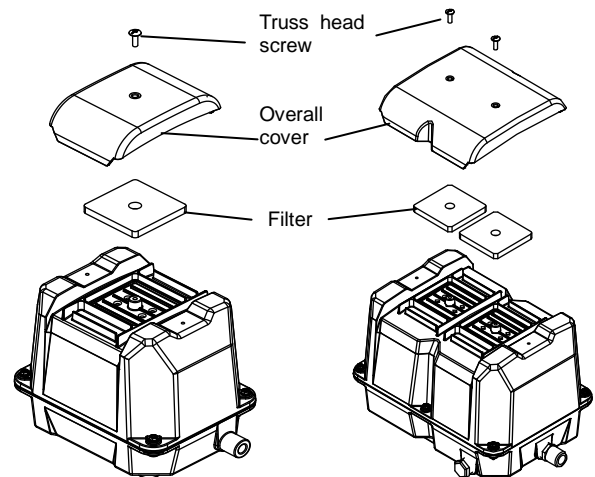

Fig 1
- Undo the truss head screw. (Ref.:Fig.1)